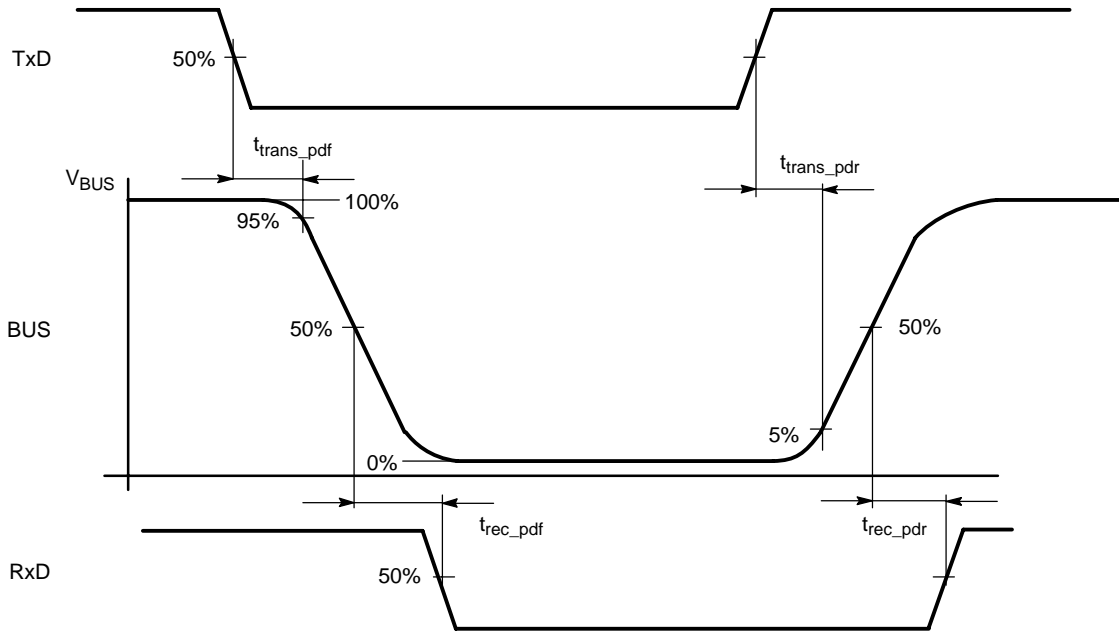

Figure 2. Input/Output Timing
11. See Figure 2 – Input/Output Timing.